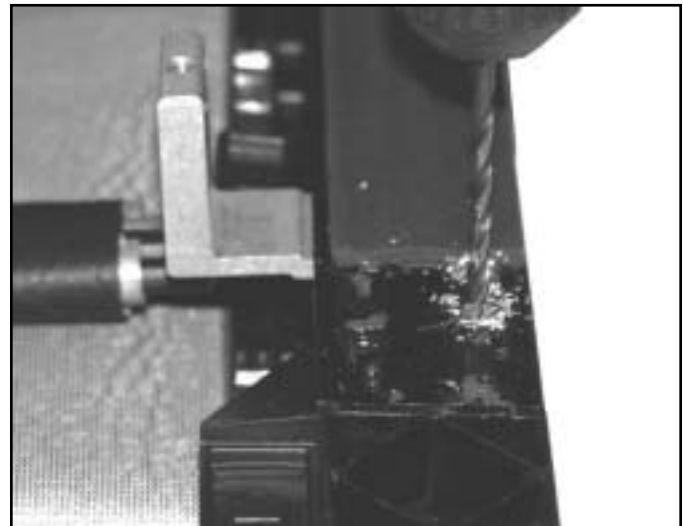

Figure S-73
8. Drill out the three (3) retainer rivets on both of the track assemblies. See figure S-73.